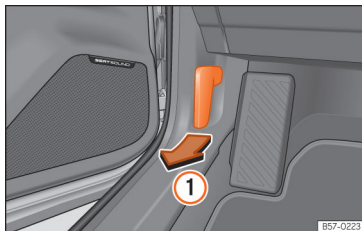

Fig. 218 Release lever in the driver's footwell area.
- Open the door and pull the lever under the dashboard »» Fig. 218 ①.